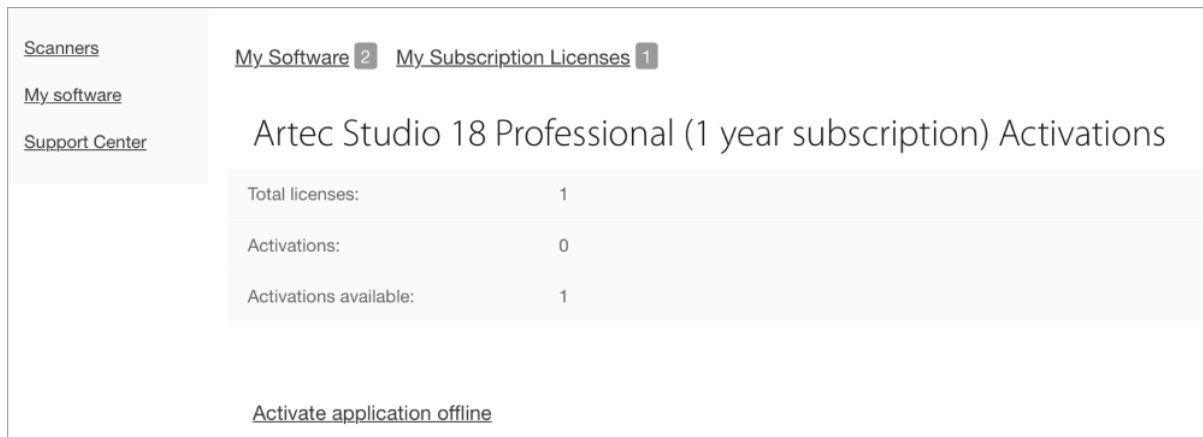

Figure 43: Offline activation at [my.artec3d](https://my.artec3d.com).
6. Find Artec Studio and click on it. A new page will appear, as Figure 43 shows.